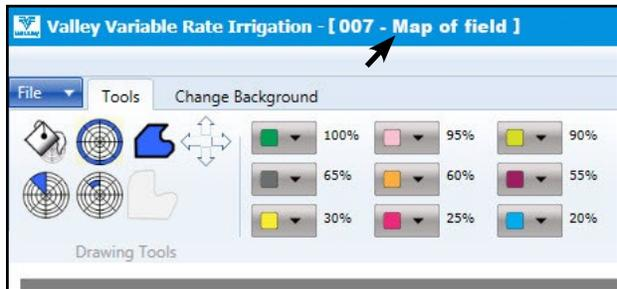

Figure 32-2 Top Menu Bar, Prescription Name
3. Once you have selected a prescription it will load. Check the name in the top menu bar to confirm the selected prescription has loaded. See Figure 32-2.